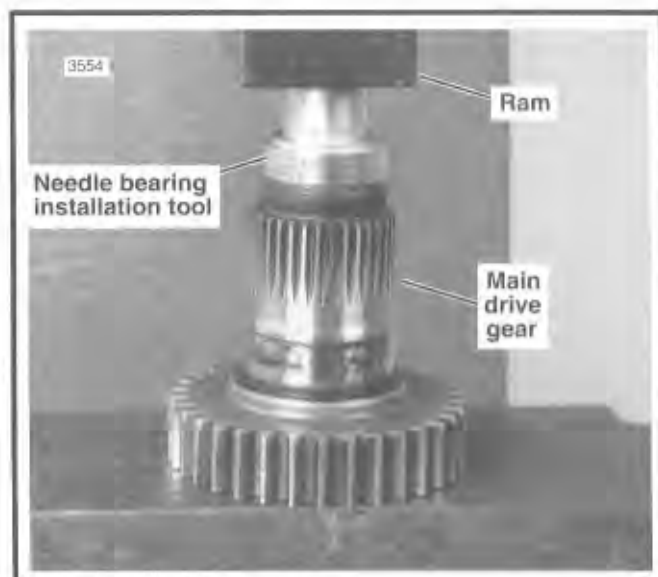

Figure 6-46. Needle Bearing Installation Tool
1. Use INNER/OUTER MAIN DRIVE GEAR NEEDLE BEARING INSTALLATION TOOL (Part No. HD-37842A). See Figure 6-46. The tool is stamped 0.080 in. (2.032 mm) for the end of the tool to be used for driving the bearing into the inner end and 0.315 (8.001 mm) for the outer end bearing.